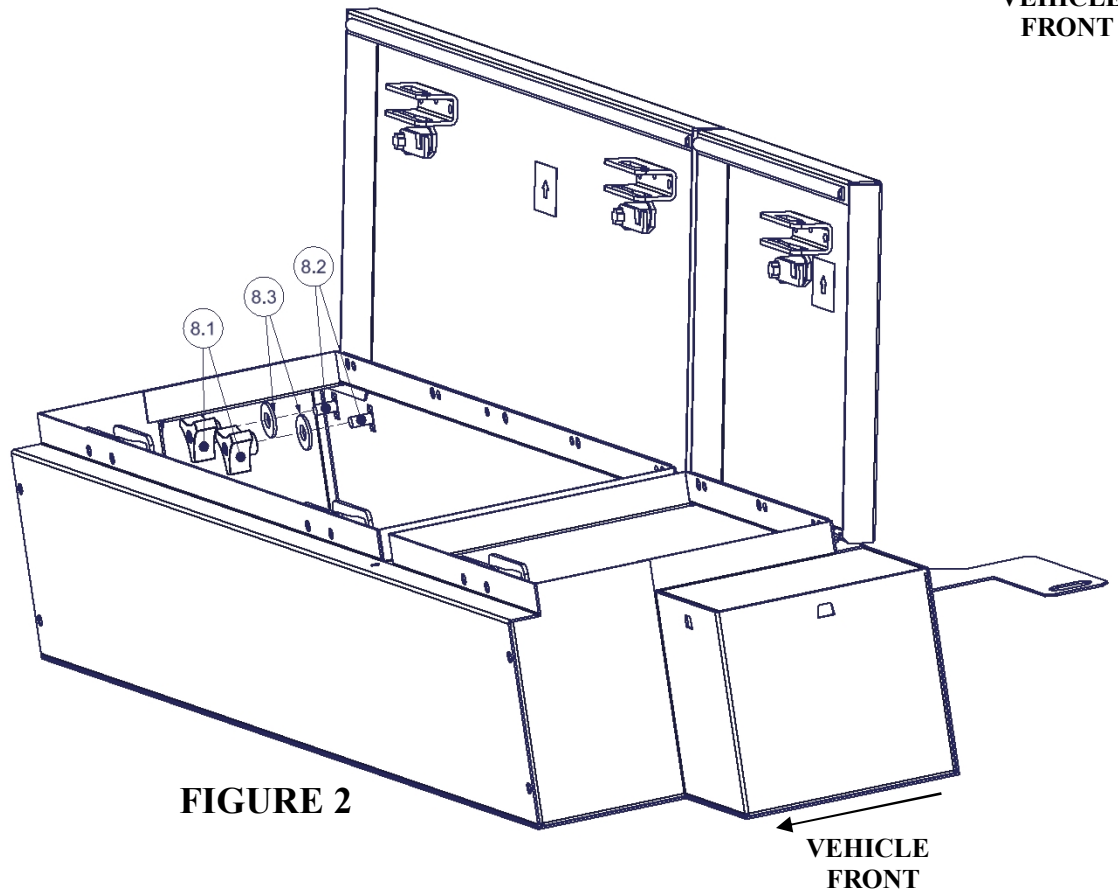

FIGURE 2
13. Install, **but do not tighten** the #8.3 Washers, and #8.1 Wing Knob Nuts. See **Figure 2** (Passenger side shown, driver side similar).